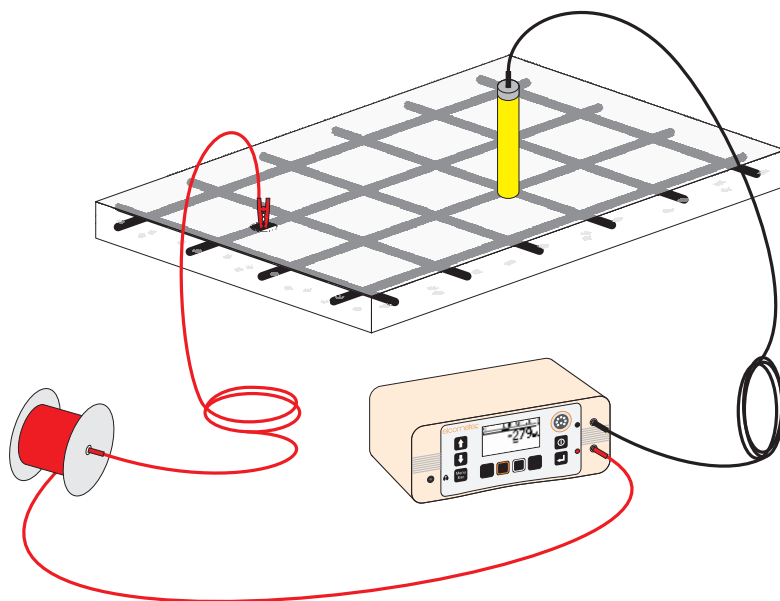

Figure 14. Typical instrument configuration for half-cell measurements
6. Connect the red cable and extension reel between the exposed reinforcing bar and the red terminal on the Covermeter (Figure 14). Connect the black cable between the probe and the black terminal on the Covermeter.